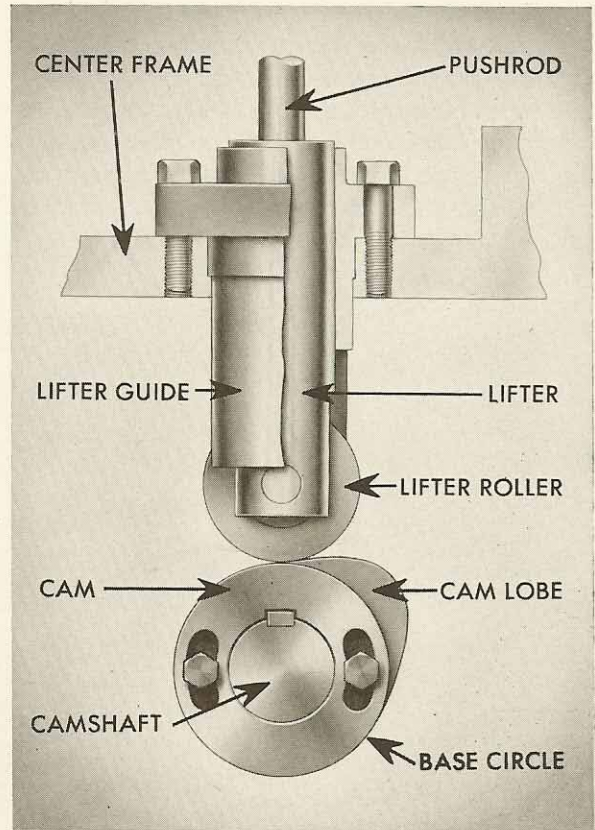

FIGURE 5-2
5. VALVE LIFTER: Actually the valve-lifter roller is not in direct contact with the cam, but for the moment we can assume that it is. The lifter moves up and down in a lifter guide that is bolted to the center frame as shown in Figure 5-2.